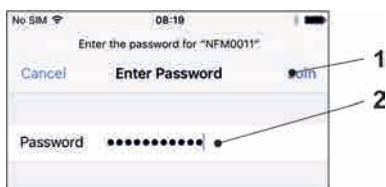

Fig. 31-14 Enter password and join
5. Enter the password for server access (default state = PUK) (Fig. 31-14 no. 2) and join (Fig. 31-14 no. 1).